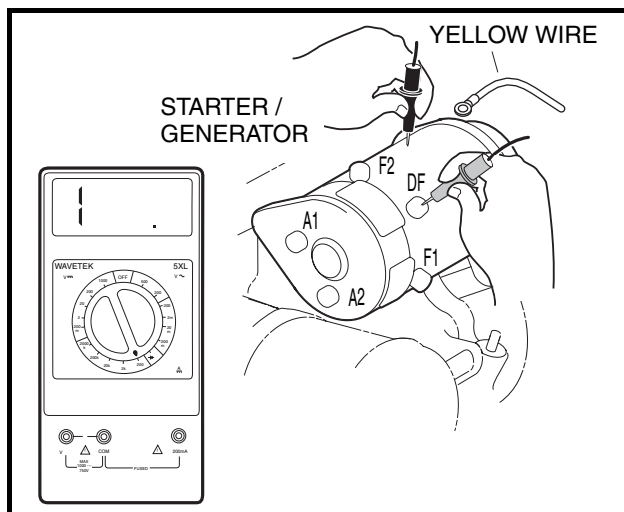

Figure 11-19 Check Terminal Continuity
3. Disconnect the wires from all the terminals on the starter/generator. Then place the black (–) probe of a multimeter, set to 200 ohms, on the starter/generator housing (scratch through the paint to ensure a good ground). While holding the black (–) probe against the housing, place the red (+) probe (one at a time) on the A1, A2, F1, F2 and DF terminals respectively (**Figure 11-19, Page 11-21**). The readings should be no continuity. If the readings are incorrect, the starter/generator will need to be removed from the vehicle and disassembled by a qualified technician. **See Starter/Generator Removal, Section 12, Page 12-1.**